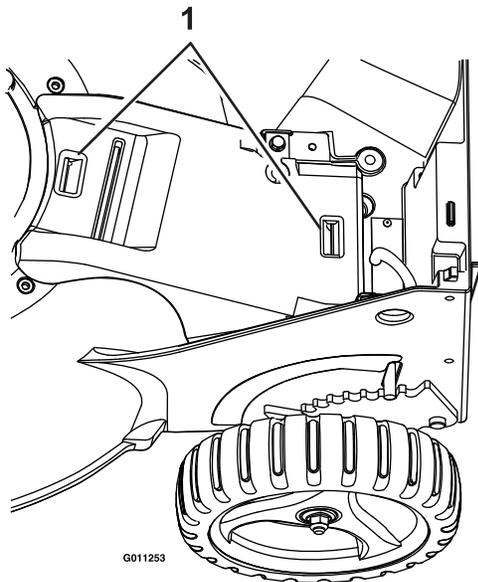

Figure 27
cover tabs (see Figure 27). Remove any debris under the cover.
3. Pull upward on the back of the cover to unsnap the front and back cover tabs (see Figure 27).